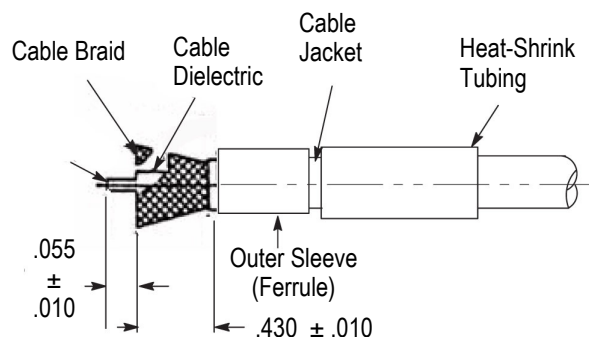

Figure 2
2. Remove the end portion of the cable jacket (according to Figure 2) to expose the cable braid.